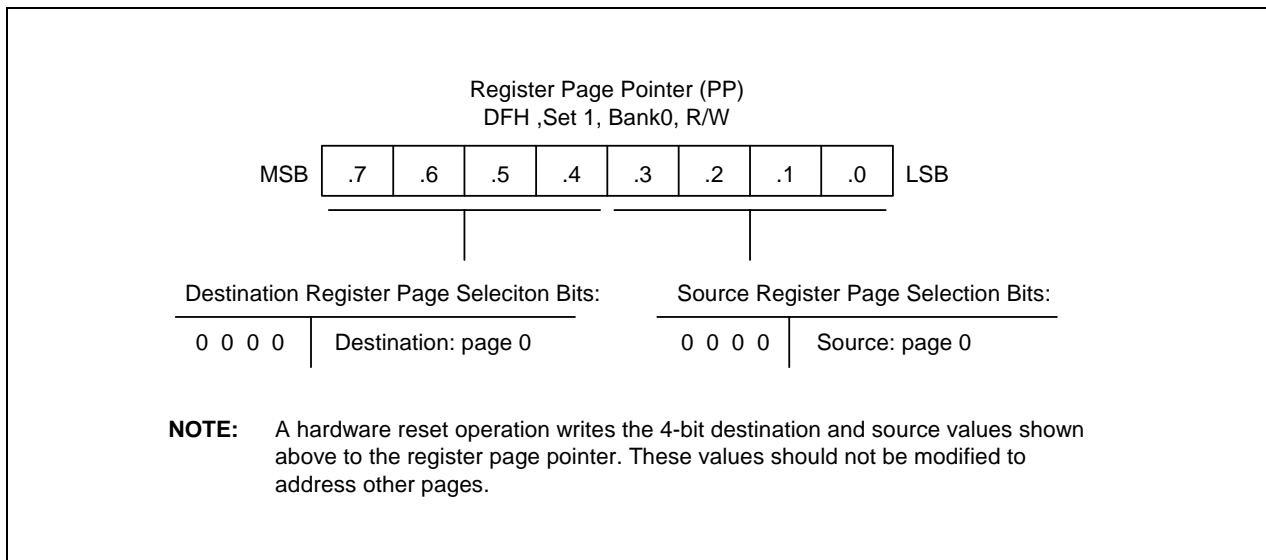

Figure 2-4. Register Page Pointer (PP)
Following a reset, the page pointer's source value (lower nibble) and destination value (upper nibble) are always '0000' automatically. Therefore, S3F80JB is always selected page 0 as the source and destination page for register addressing. These page pointer (PP) register settings, as shown in Figure 2-4, should not be modified during normal operation.